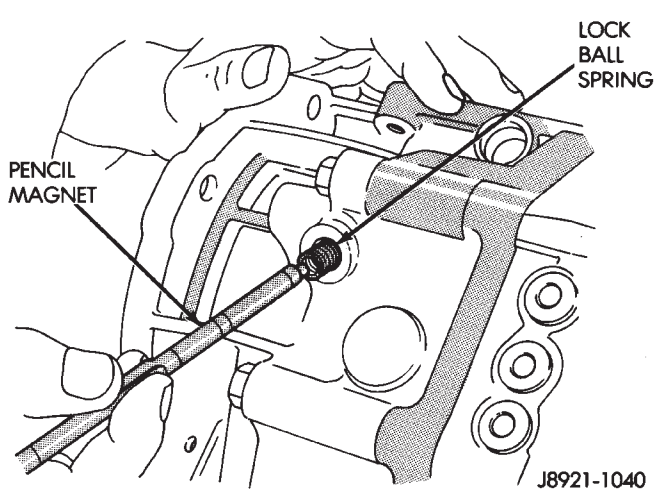

Fig. 10 Removing/Installing Lock Ball Spring
- (11) Remove lock ball spring with pencil magnet (Fig. 10).